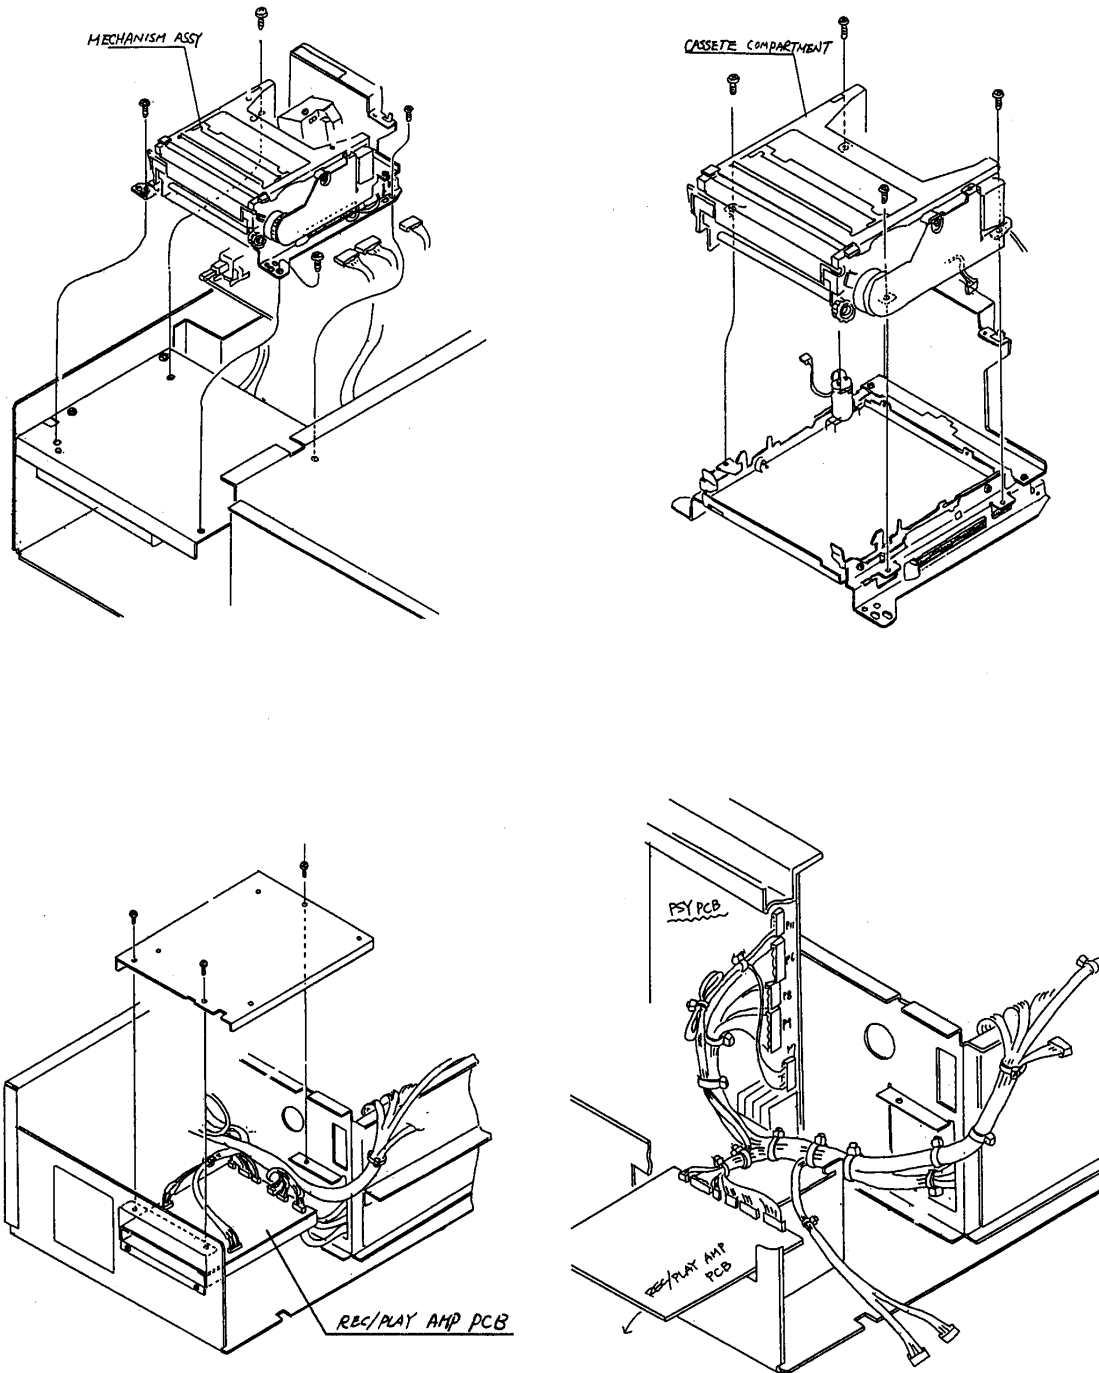

Fig 1
- 1.1 Dismount Mechanism Assy from main unit. See Fig 1.
- 1.2 Separate Cassette Compartment from Mechanism Assy. See Fig 1.
Dismount REC/PLAY PCB Assy from main unit. See Fig 1.